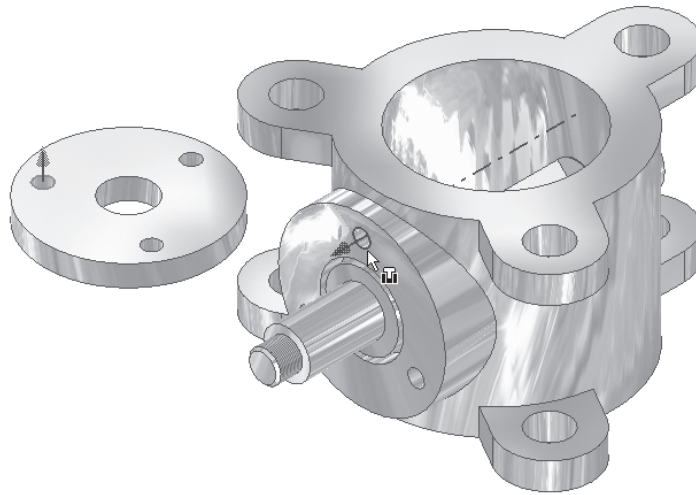

Figure 8-39 Selecting the faces to apply the **Insert** constraint
6. Choose the **Insert** button from the **Type** area. Select the circular edge of one of the smaller holes on the top face of the Retainer as the first edge, see Figure 8-39.
7. Select the circular edge of one of the smaller holes on the front planar face of the circular feature on the Body to apply the constraint, see Figure 8-39. Choose **Apply**.